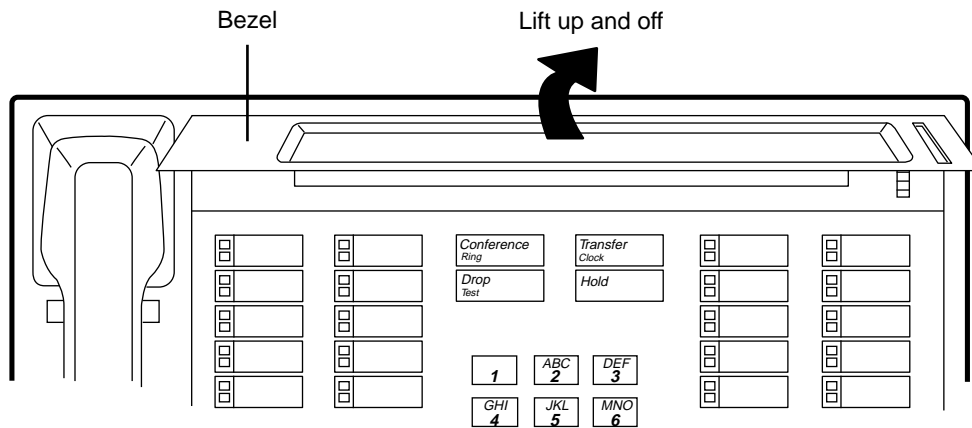

FIGURE 6-12. 7507: Removing the Display Bezel
5. Using your fingers, lift the bezel that surrounds the display. See Figure 6-12.